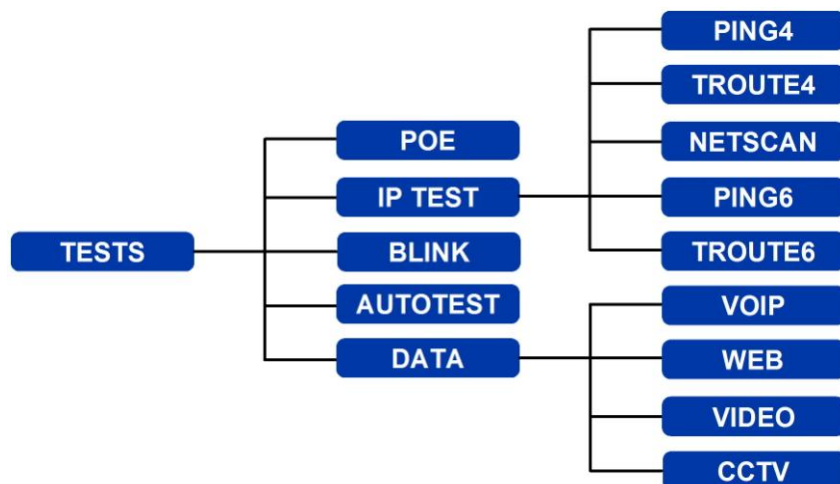

Fig 18 Test menu map – Ethernet testing (3)
(3) When a SignalTEK II Remote Unit is detected through an active network the information bar will read 'Ethernet'. When the TESTS icon is selected, the Ethernet tests shown at Fig 18 are available.